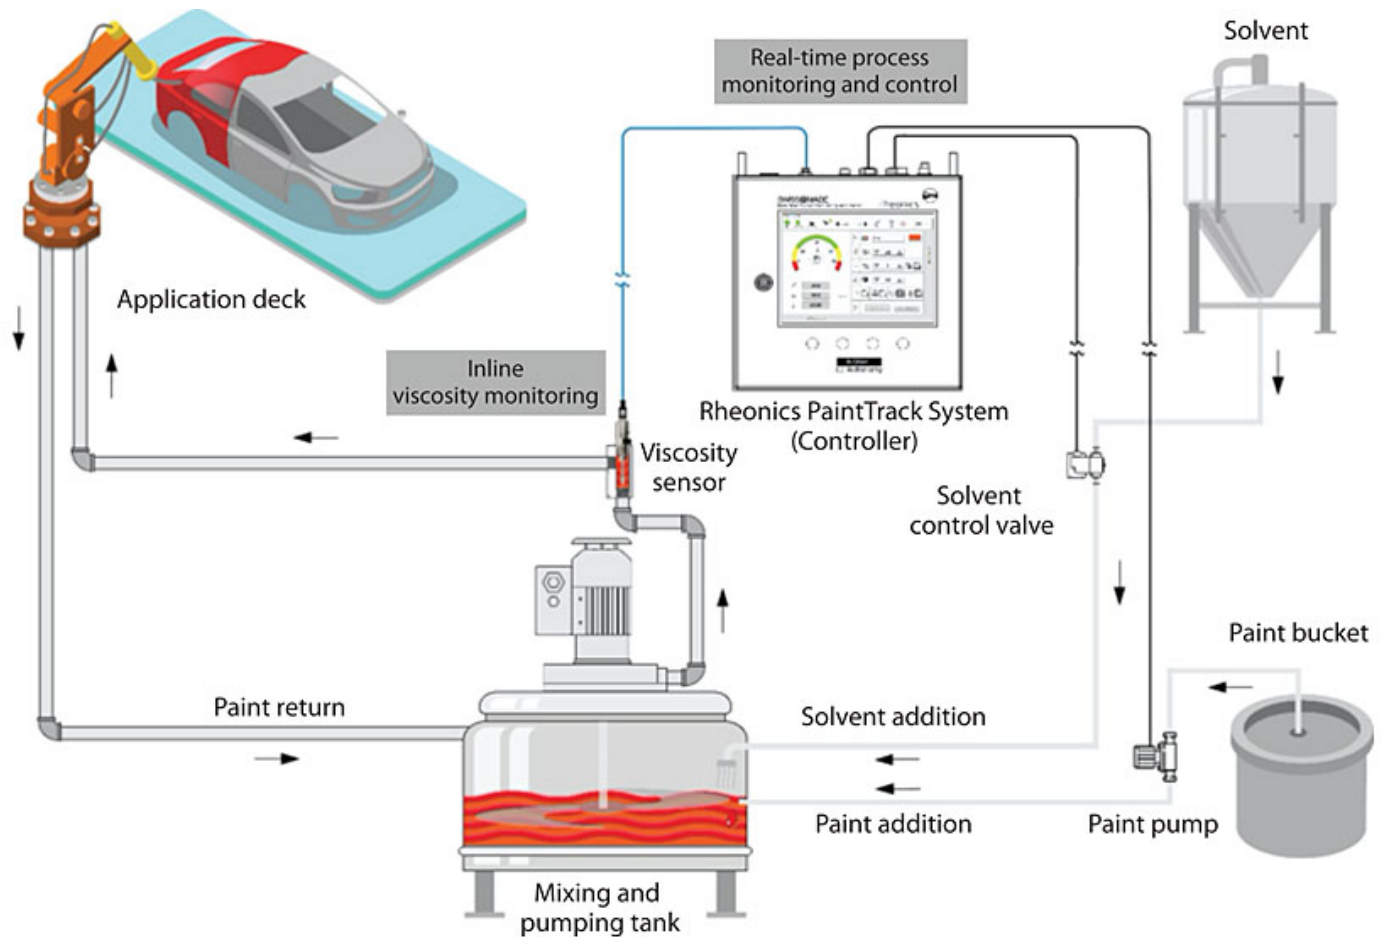

FIGURE 2 Rheonics inline viscometer and PaintTrack system showing the inline integration of viscometer in the automotive coating process.
- Powerful software – Rheonics PaintTrack software is convenient and intuitive, and is powered by a proprietary, advanced, fifth-generation AI system for simple click lock and run. It supports multiple HMIs for operator, production supervisor, quality manager and management view. Designed for automated instrument control and data acquisition in factory environment (Figure 2).